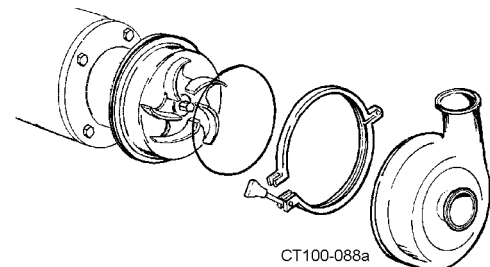

Figure 61 - Install O-ring, Casing, Clamp
15. Install the o-ring and casing; clamp in place (Figure 61).